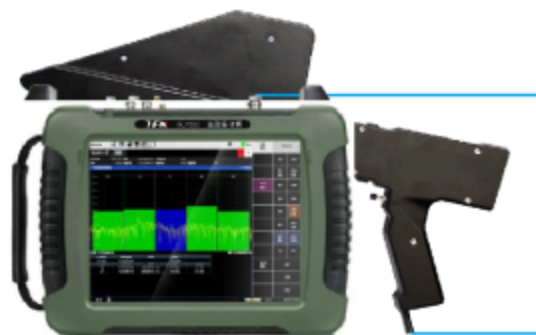

Figure 7.4 Schematic diagram of handheld DF antenna and RMT series spectrometer
Step 1. Connect the handheld DF antenna to the RF input port of the RMT series spectrometer, as shown in Figure 7.4: